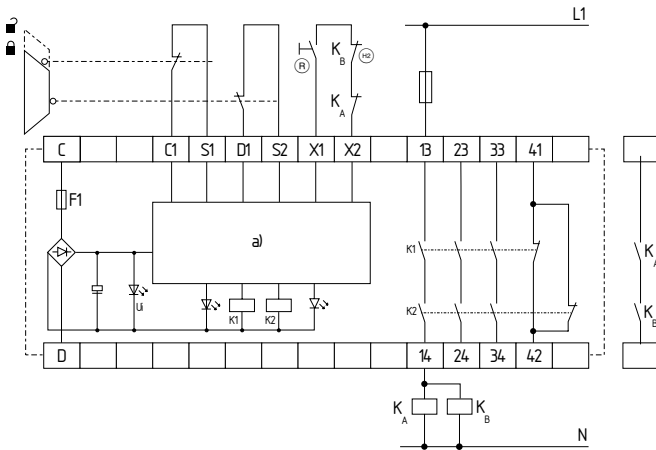

Fig. 2
Dual-channel control, shown for a guard door monitor with two position switches where one has a positive break contact; with external reset button (R) (Fig. 2)